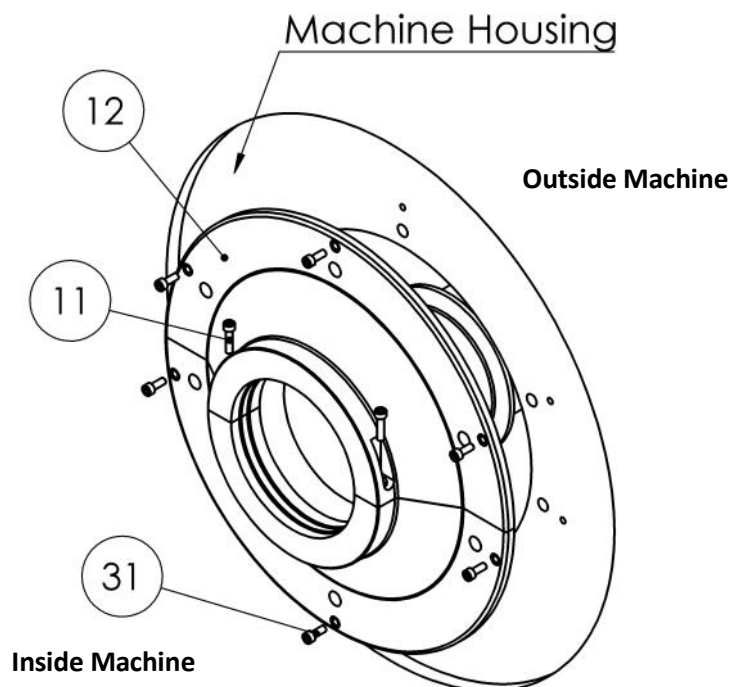

Fig. 16: Assembly of the Machine seal
- Secure the machine seal (12) inside the machine housing (Fig. 16).
- In case of split machine seal, tighten the split line screws (11) by hand.
- Tighten the fastening screw (31) that attached the machine seal to the machine housing.